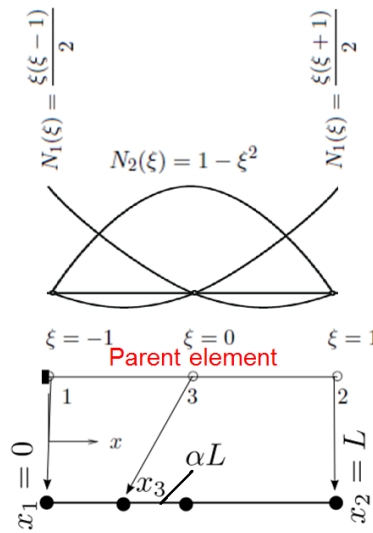

Figure 3: Second order element for 1D problems.
- **45 Points** For second order bar element with constant E, A and the internal node n_3 being in the center we have (*cf.* fig. 3),